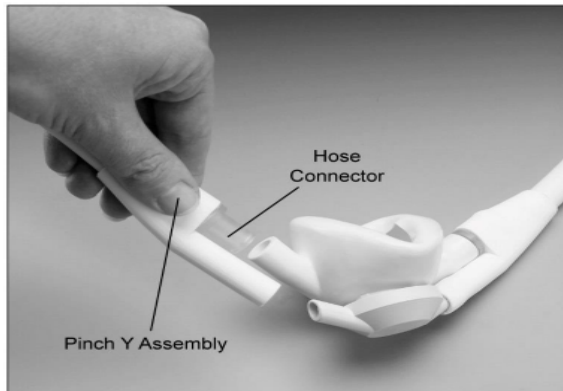

Figure 5. Removing the Y from the Hood
4. Pinching the gas Y just behind the hose connector, work the hood free from the gas Y. Repeat for the vacuum Y. These procedures leave the hose connectors connected to the Ys. See Figure 5.
8. Pinching the hose connector in the gas Y (Figure 5), insert it into the hood fully. Repeat for the vacuum Y.